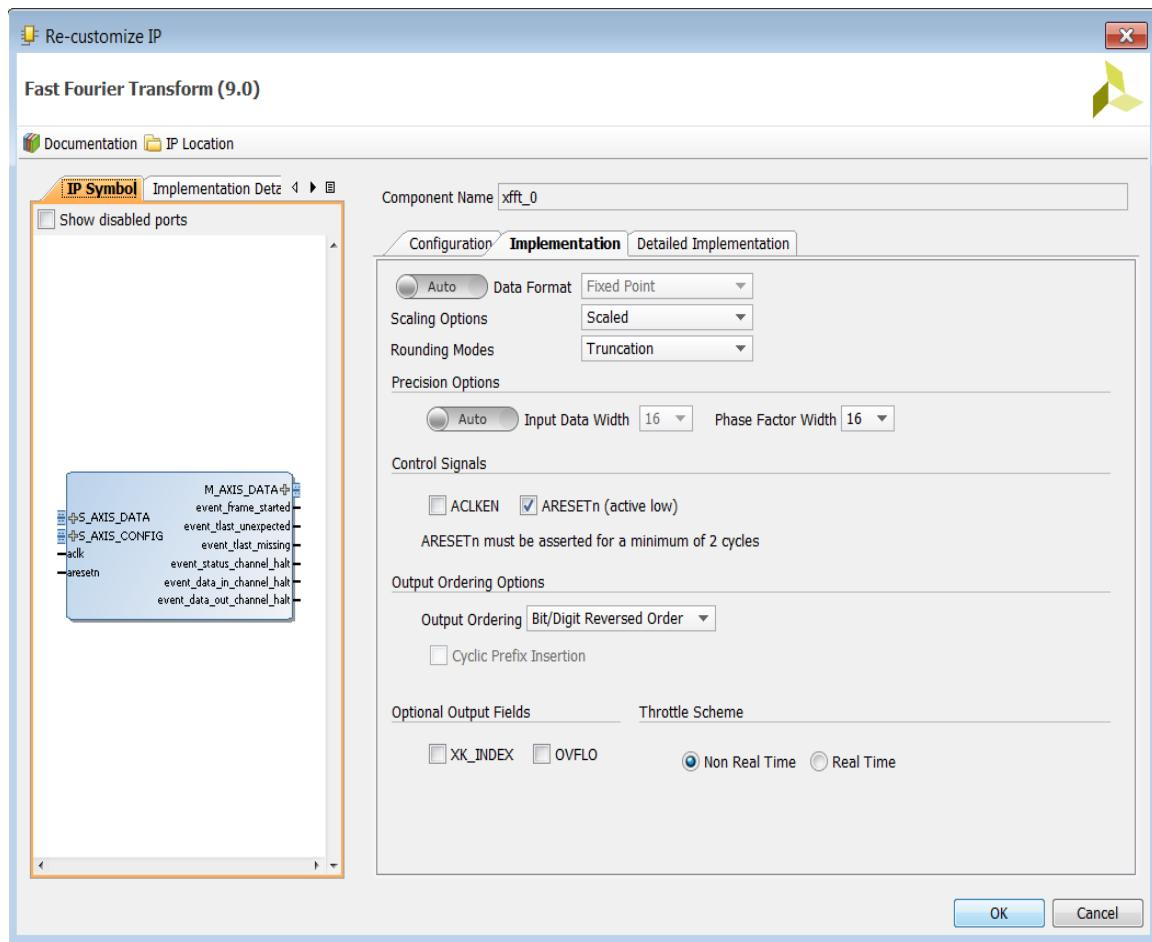

Figure 9-17: Xilinx FFT Implementation
5. Select the **Implementation** tab (Figure 9-17):